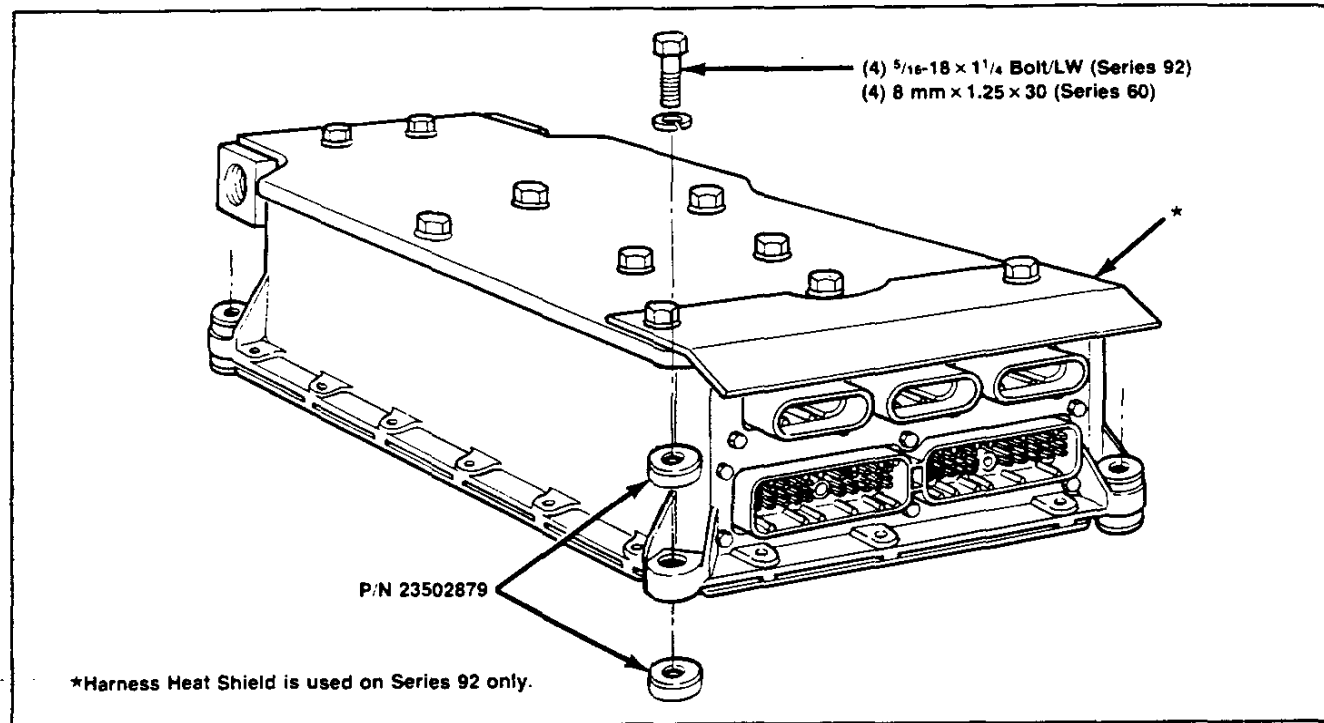

Figure 4
Install (2) isolators, P/N 23502879, in each mount hole in ECM, one on top, and one on bottom, as illustrated in Figure 4.